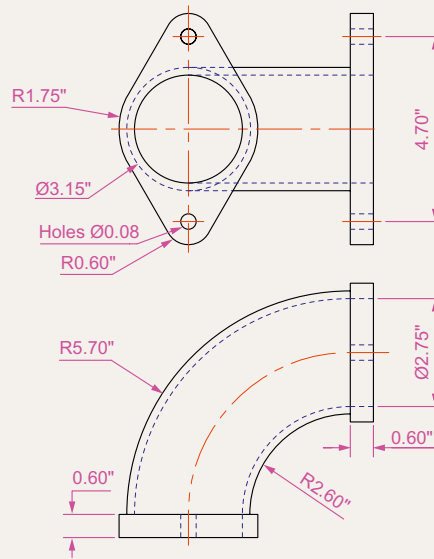

Fig. 17.37 Exercise 3 – details of shape and sizes
3. The two-view projection (Fig. 17.37) shows a ducting pipe. Construct a 3D model drawing of the pipe. Place in an **SW Isometric** view, add lighting to the scene and a material to the model and render.